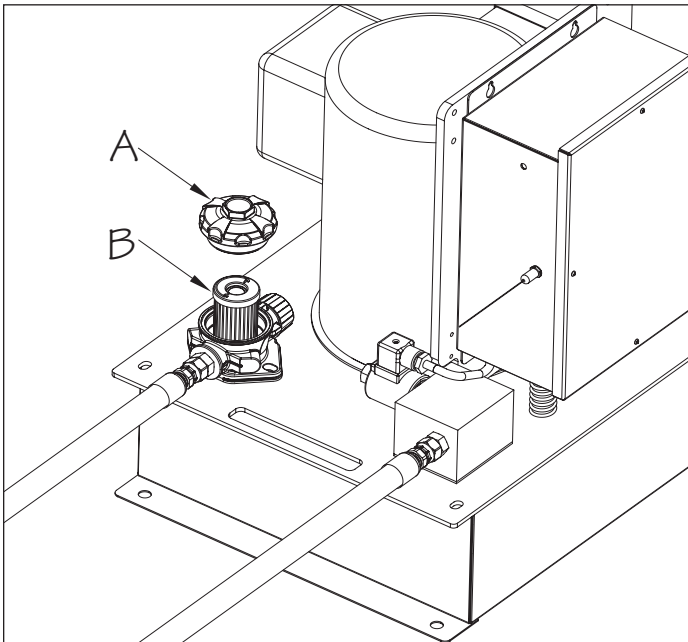

Fig. 29
Remove the Fill Cap (A) and then remove the Oil Filter (B) by lifting it out of the fill opening (Fig. 29). Use the provided paper funnels and fill the reservoir so that the fluid level is within 2" (5cm) of the reservoir lid. Once filled, replace the Oil Filter and ensure that it is seated properly before reinstalling the Fill Cap. Additional fluid has been provided if long run hoses were ordered and will be added to the reservoir during the initial start up.